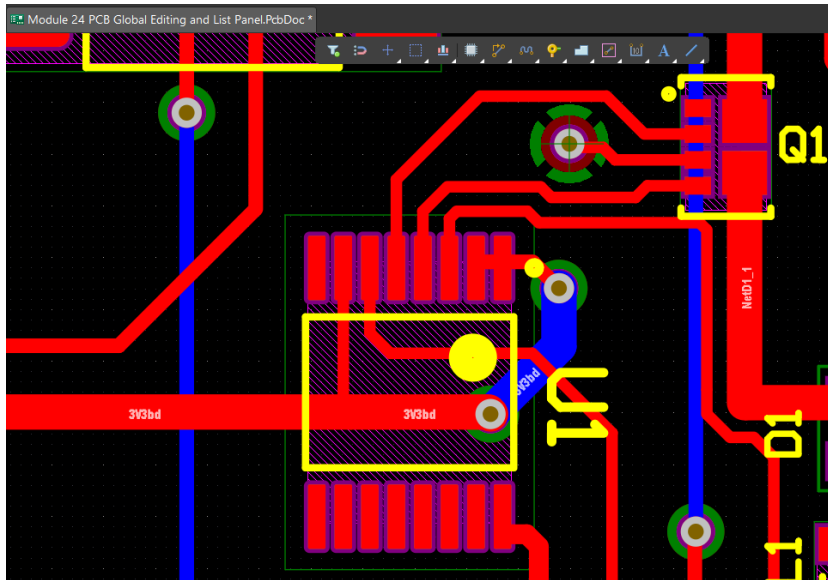

Figure 1. `WCToppingGlobalEditing.PcbDoc` near component `U1`
8. Open the `Module 24 PCB Global Editing and List Panel.PcbDoc` document and zoom in on `U1` as shown in Figure 1 below.